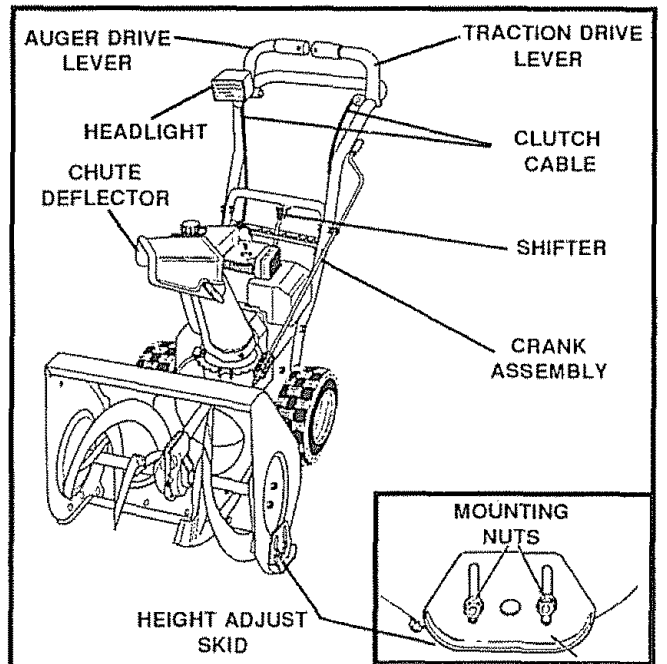

FIG. 2
Fig. 2 shows the snow thrower completely assembled.
- Your snow thrower is equipped with height adjust skids (Fig. 2) on the outside of the auger housing. To adjust the skid height for different conditions, see the To Adjust Skid Height paragraph on page 17.
- Remove the pivot bolt nut, lockwasher and saddle washer (Fig 6A), place saddle washer and headlight in correct position (as shown in Fig 6B and in Fig 2 on page 7), then place lockwasher and re-tighten pivot bolt nut (See Headlight Repair Parts, page 34).